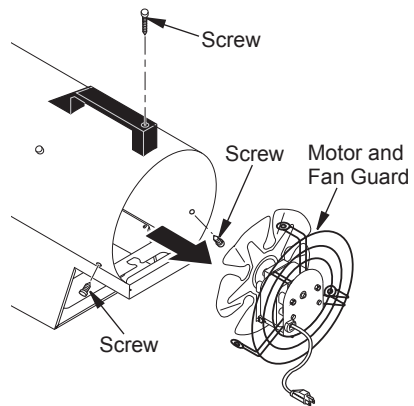

Figure 9 - Removing Motor and Fan Guard from Heater
2. Remove motor and fan guard from heater shell (see Figure 9).
2. Remove motor and fan guard from heater shell (see Figure 9, page 7).